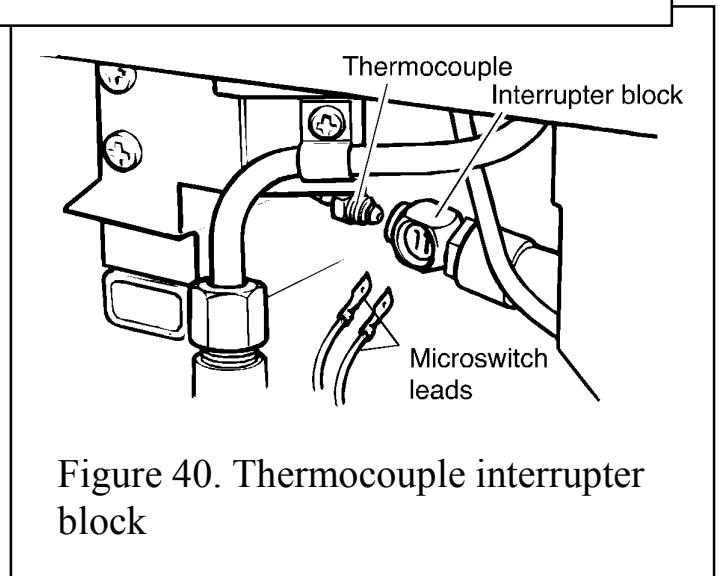

Figure 40. Thermocouple interrupter block
3. Loosen the thermocouple nut to free the microswitch leads and pull the leads clear of the thermocouple interrupter block. See figure 40.